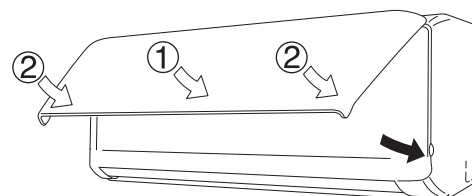

Fig. 3-18
- (6) Insert the top of the anti-mold filter, and then secure the bottom of the filter with the protrusions on the unit.
- (7) When closing the front panel, push the central part of the front panel first and then press the bottom right and left corners in place until you feel a click. (Fig. 3-18)